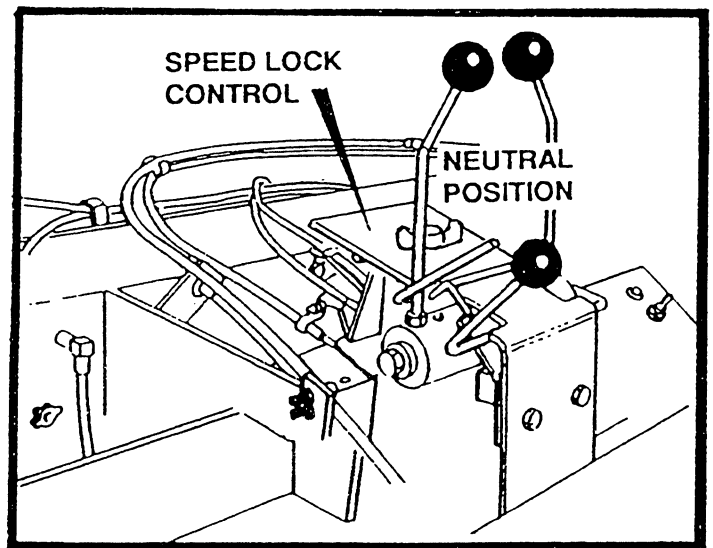

FIGURE 5
6. When stopping, move both steering levers to the neutral position. See figure 5.
7. When paving, a constant speed is necessary to lay a even asphalt mat. Use the speed lock control to hold and retain steering levers in a fixed position. See figure 5.